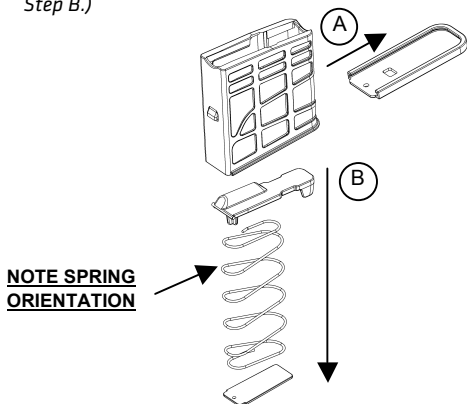

Figure 14, Step A and B.
2. While holding down the tab, slide the floor plate off of the magazine body. (*Figure 14, Step A.*) Be sure to hold the floor plate retainer in place because the magazine spring is under tension.
3. After removing the floor plate, slowly release the magazine spring to remove the floor plate retainer, the spring, and the follower. (Figure 14, Step B.)
Assembly is reverse order of disassembly. Magazine spring must be inserted according to Figure 14. Either end of spring may be placed against follower. Termination of top spring loop must face to the rear.